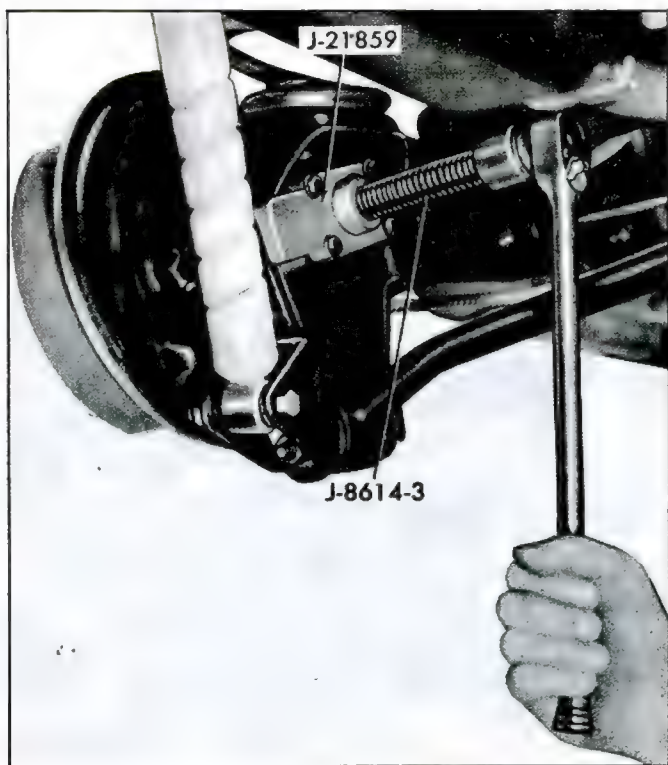

Fig. 64—Removing Wheel Spindle Flange
5. Screw Tool J-21859-1 onto spindle. Install Tool J-21859-2 to spindle flange, using the special bolts supplied with tool. Screw Tool J-8614-3 into J-21859-2 and remove spindle flange by turning J-8614-3 (fig. 64).